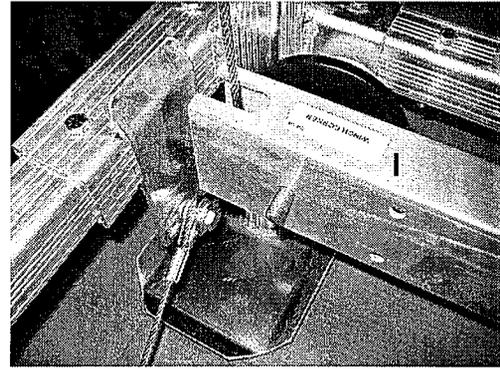

FIG. 17
1. Review FIG. 17 thru 19 until you understand the bolt placement before proceeding onto the next step.